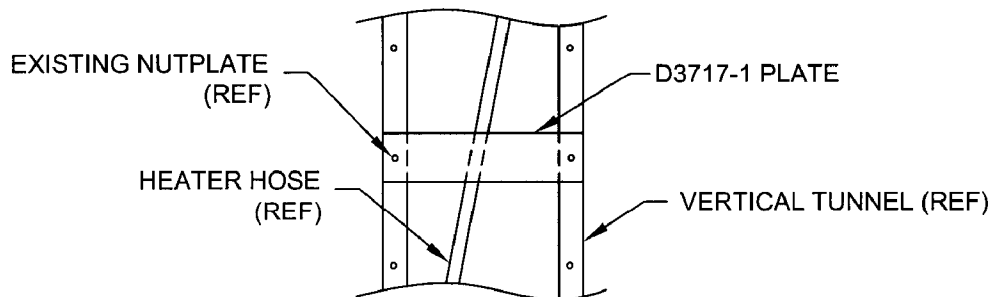

FIGURE 3. PLATE INSTALLATION
8. The D3717-1 plates can be transfer-drilled and installed using the existing nutplates on the vertical tunnel cover to secure the heater line in the vertical tunnel as shown in Figure 3.